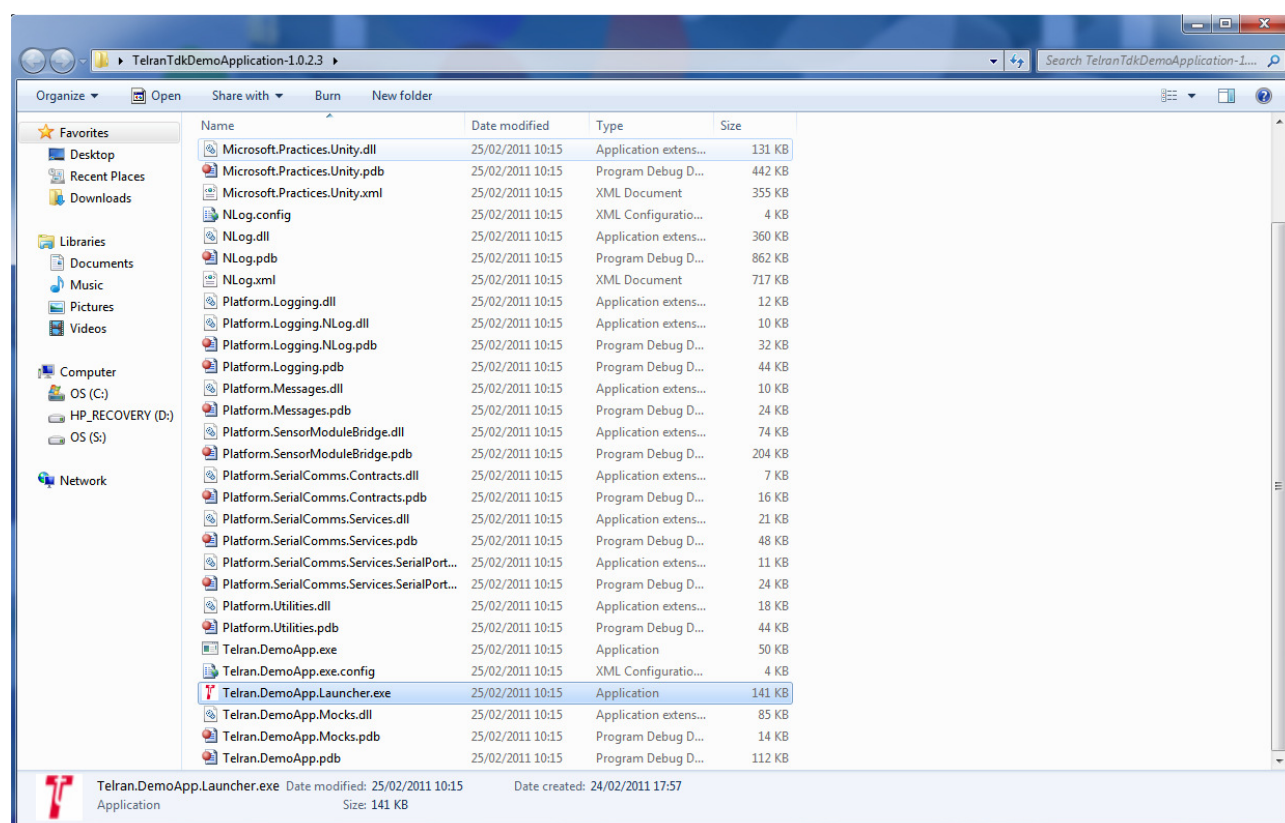

Figure 12. File structure for Accelerometer Demonstration.
Installation also requires that the PC code for the application is installed on the user's PC in a directory called TelranTdkDemoApplications-1.0.2.3, see Figure 12
2. Navigate to the directory TelranTdkDemoApplications-1.0.2.3, see Figure 12.